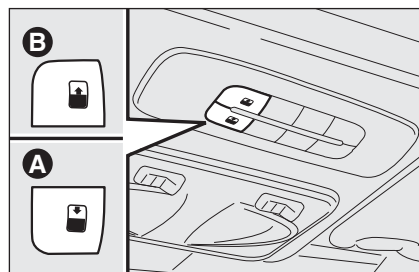
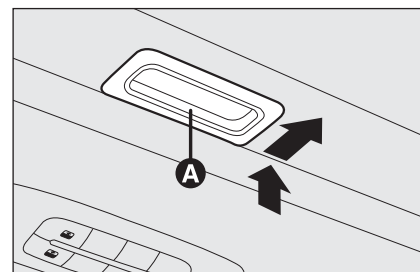

fig. 67
fig. 68
Certain versions are fitted with an armrest **A**-fig. 67 between the front seats.
The large electric sunroof comprises two panes of glass, one of which is mobile and the other fixed. These are equipped with two shutters (front and rear) that can be moved manually. The shutters can be used in the “fully closed” or “fully open” positions (they have no fixed intermediate positions). To open the shutters: grip handle **A**-fig. 68, release it and move it in the direction of the arrows to the “fully open” position. To close them, carry out the procedure in reverse. The sunroof can be operated only when the ignition key is turned to **MAR**. The controls **A-B** fig. 67 on a dedicated dashboard near the front ceiling lights open and close the sunroof.
Press and hold button **B**-fig. 67, and the front pane will set to the “spoiler” position; press button **B**-fig. 67 again for over half a second to make the sunroof slide automatically to the wide open position; press the button once more to stop the sunroof at an intermediate position.
When in wide open position, press button **A**-fig. 67 for over half a second to set the front pane to the “spoiler” position; press the button again to stop the sunroof at an intermediate position; press button **A**-fig. 67 once more and hold it down to close the sunroof completely.
- ☐ press button **A-fig. 67** at close position;